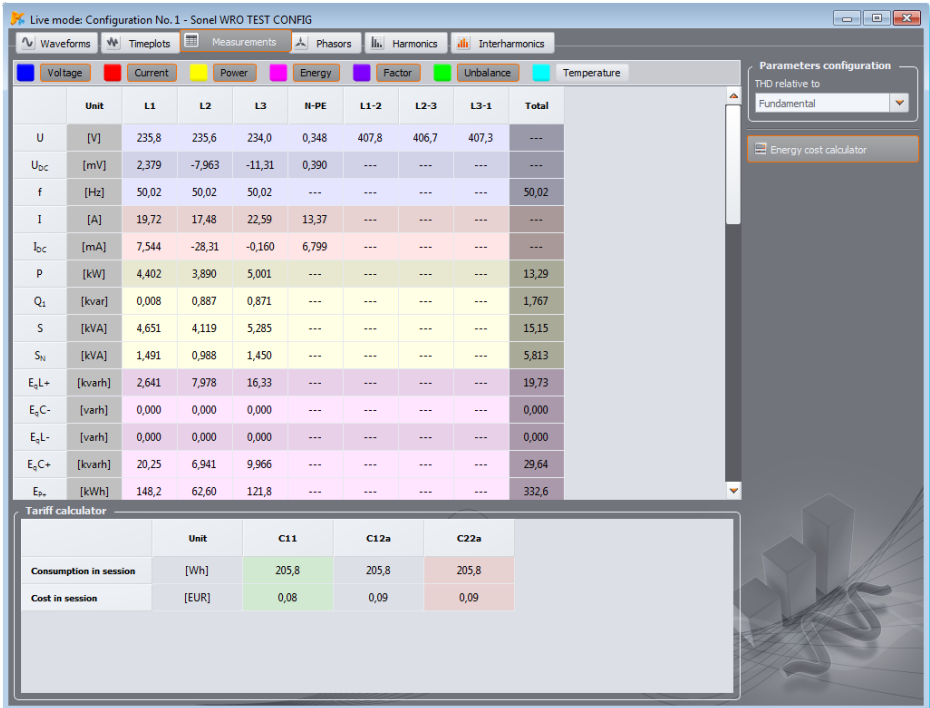

Fig. 49. Indications of phase and total values
**MEASUREMENTS** tab provides a view of a range of parameters of the measured mains. Fig. 49 presents an example of a screen that shows a summary table of values read from the analyzer and displayed in real time.
On the right side, in **MEASUREMENT** tab (see Fig. 49), a button is available for **ENERGY COST CALCULATOR**. After clicking the lower part of the window, a table with **TARIFF CALCULATOR** is displayed, which shows energy values of the current session (from opening tab **MEASUREMENTS**) and energy costs by three tariffs configured in the program settings. Energy is counted by the calculator as long as window **LIVE MODE** is open. The basis for calculating is total active energy input (**Ep+**).